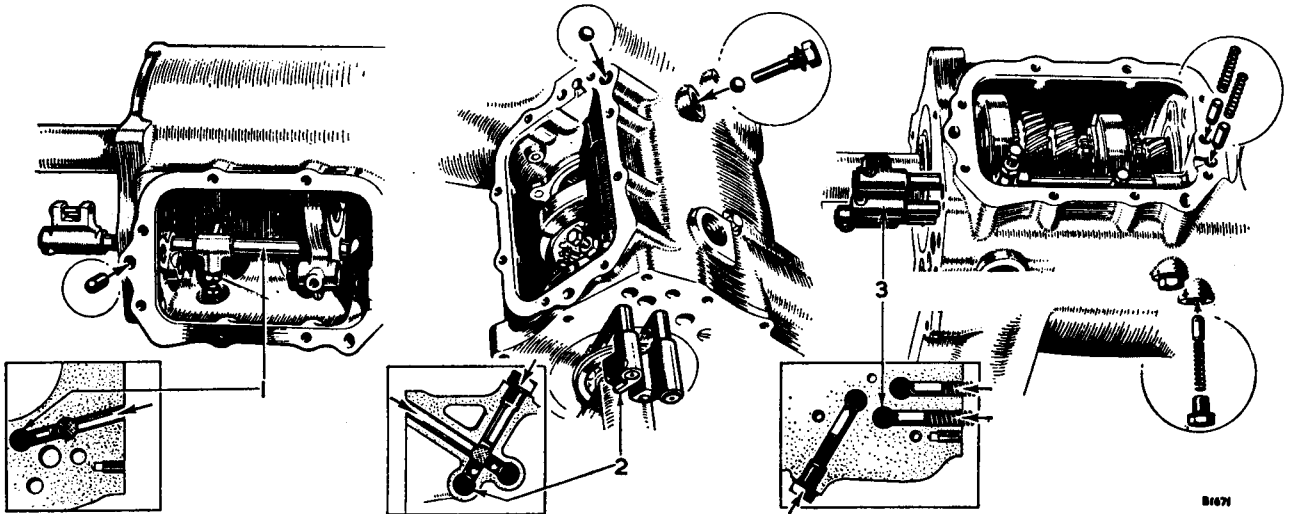

Fig. FF.5
- (2) The layshaft is not inserted until the third motion shaft assembly and first motion shaft have been installed.
- (3) Refit the first motion shaft assembly.
- (4) Replace the reverse gear and shaft. The large gear is to the rear of the gearbox, and a screw-
- (9) Replace the reverse selector rod, identified by the stop pin through the gate, threading it through the bore farthest from the gearbox side cover, the reverse gear fork, and the clearance hole in the third and fourth gear fork. With the gate uppermost, align the locating screw hole and register, replace, and lock the selector fork screw see Fig. FF.5).
- (10) Replace the first and second gear selector fork and insert the first and second selector rod, identified by the closed gate, in the bore nearest to the side cover. Align the selector fork retaining screw hole with the register on the rod and insert and lock the screw.
- (11) Turn the gearbox over. Align the groove at the rear end of the rod with the double-ended plunger already inserted and insert an interlock ball through the lower drilling in the right-hand corner of the cover-plate face, pushing the ball beyond the third and fourth selector rod bore until it engages the groove in the reverse shaft. Insert a ball through the rearmost of the drillings in the bottom of the gearbox at the front end of the rods. Insert the third and fourth selector rod, engaging the selector fork and aligning the gate with the gates of the other two rods. Replace the plug and fibre washer in the bottom of the gearbox. Align the fork retaining screw hole with the register on the rod and insert and lock the screw.
- (12) Insert the single-ended plunger, round end first, in the foremost of the two drillings in the bottom of the gearbox below the front end of the rods. Follow the plunger with a spring and secure with a plug and fibre washer.
- (13) Clean the mating faces of the gearbox casing and side cover. Insert the first and second rod and third and fourth selector rod locating plungers, round ends first, and the retaining springs (see Fig. FF.5). Replace the side cover and joint seal.
- (14) Clean the rear face of the gearbox housing and fit a new joint seal gasket if the original is damaged. Smear grease on the outer race of the rear bearing and adhere the packing washer. Before replacing the gearbox rear cover ensure that the oil seal, felt, and sliding joint bush are in good condition. To remove the oil seals the outer dust cover should be released from the gearbox casing by cutting with a hacksaw the turned-down edge which registers in a groove in the gearbox. Pull off the dust cover and then remove the oil seal assembly, using Service tool 18G 389 and adaptor 18G 389 A. When reassembling, a new oil seal assembly complete must be fitted (an outer dust cover is not fitted to later gearboxes).
- (15) Fit the rear cover. Replace the speedometer drive pinion and sealing washer.
- (16) Replace the clutch withdrawal lever, inserting the bolt and locking tag washer from the bottom and screwing it into the top lug of the bracket. Tighten the bolt to eliminate side-play from the lever and lock the bolt with the tag washer, nut, and spring washer.
- (17) To reassemble the gear lever ball seating, position the bottom seating so that the two holes parallel with the retaining peg are in front of the lever. Note that one slot in the seating has an enlarged diameter in the centre. Insert the peg, chamfered edge to one side, through this hole and through the ball until the shouldered centre portion is just inside the ball. Turn the peg 90° until the chamfered side is uppermost and push the peg until it is centred.